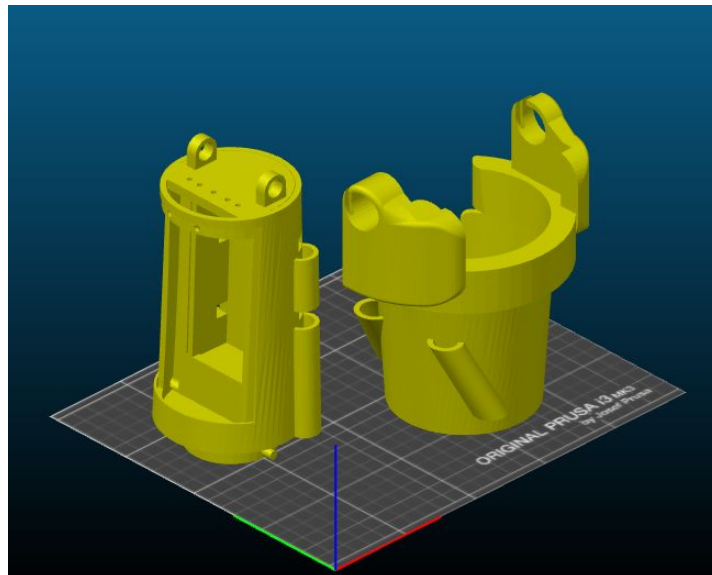

Figure 2.3.1: Slicer Setup
The forearm (item 2) takes on a cylindrical shape and must be printed from the bottom up following circular motions in order to reduce shear and splitting of the material. Figure 2.3.1 provides a visual of how the forearm is positioned prior to print. Once printed, trim all excess material from the cut outs and edges so that the final product is smooth and hollow.